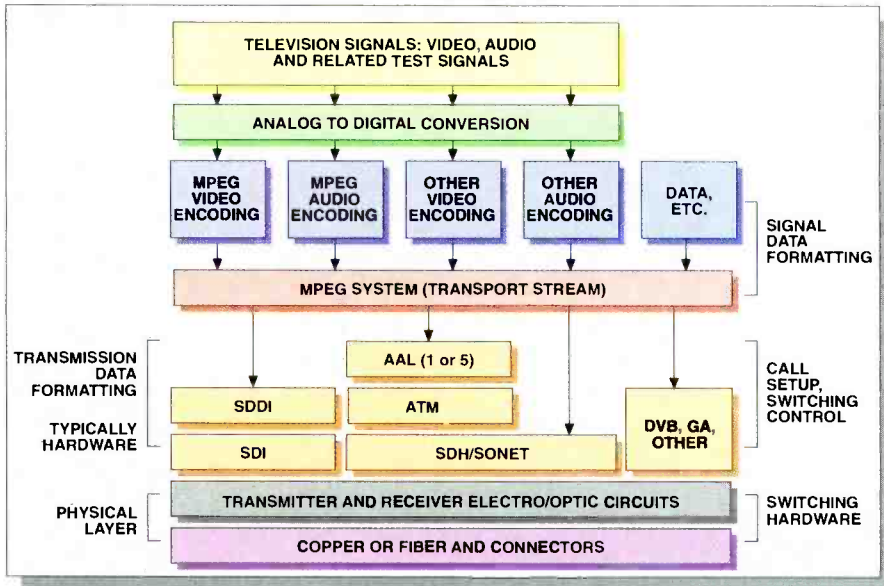

Figure 3. Various functional layers used in TV/telecommunication systems.
With the convergence of television and telecommunications, not only are there many more layers for the test engineers to consider, but there are various possible paths with different layers. Figure 3 shows some of the paths and layers that are possible. Emphasis is on intrafacility and broadband transmission. However, the Digital Video Broadcasting (DVB) and Grand Alliance (GA) systems do include RF and cable transmission methods to carry the transport stream data.